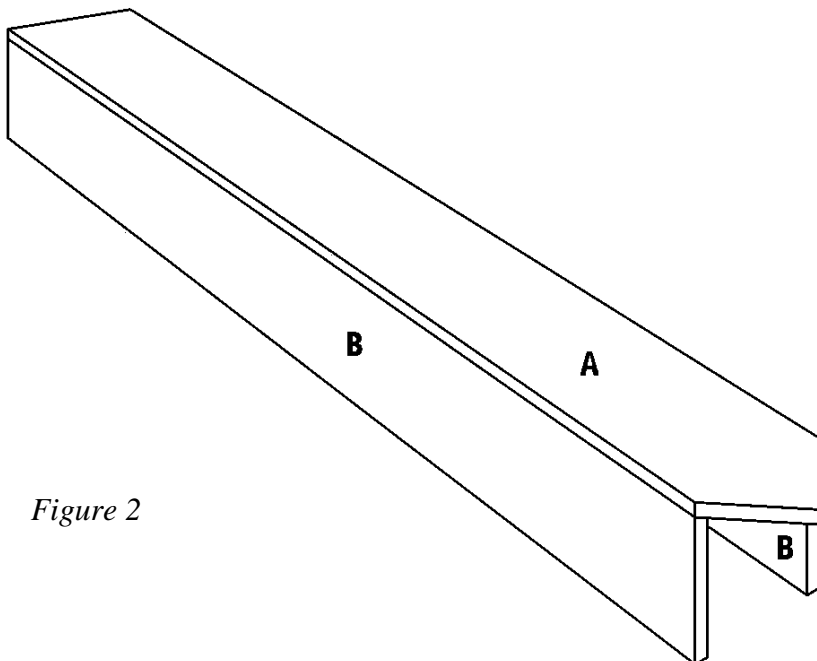

Figure 2
5. Place the two Sides (B) on a level surface, parallel to each other and 5-3/4 inches apart. Apply glue to the meeting edges, and place one Back/Front (A) over the two Sides (B), as shown in *Figure 2*. Note that the square end of the Back/Front (A) is even with the end of the Sides (B), and that the pointed end of the Back/Front (A) extends beyond the Sides (B). Nail through the Back/Front (A) into the edges of the two Sides (B) using 1-1/2" nails placed approximately every 5 inches.
6. Turn the assembly upside-down, and repeat Step 4 to attach the remaining Back/Front (A).